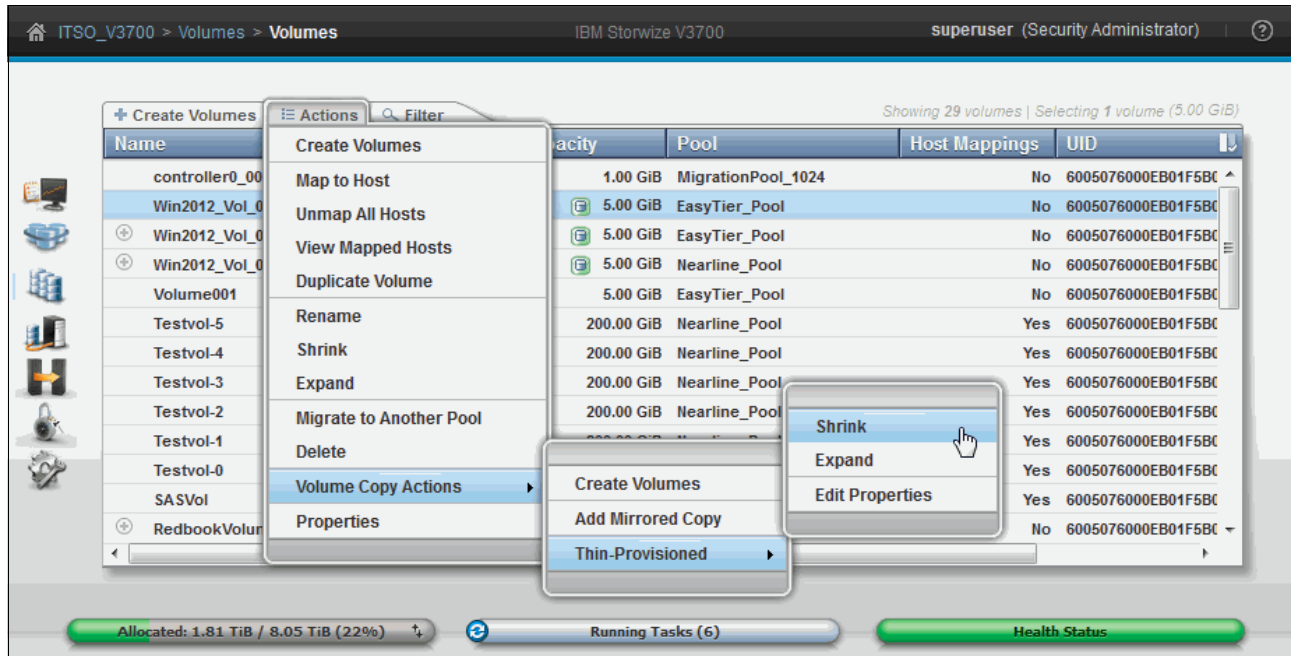

Figure 8-63 Working with thin-provisioned volumes
1. Select the volume then select **Actions** → **Volume Copy Actions** → **Thin-Provisioned**, as shown in Figure 8-63 on page 404.
The following options are available, as shown in Figure 8-63:
1. Select **Shrink**, as shown in Figure 8-63, to reduce the allocated space of a thin-provisioned volume.
1. Select **Expand**, as shown in Figure 8-63 on page 404.
1. Select **Edit Properties**, as shown in Figure 8-63 on page 404.